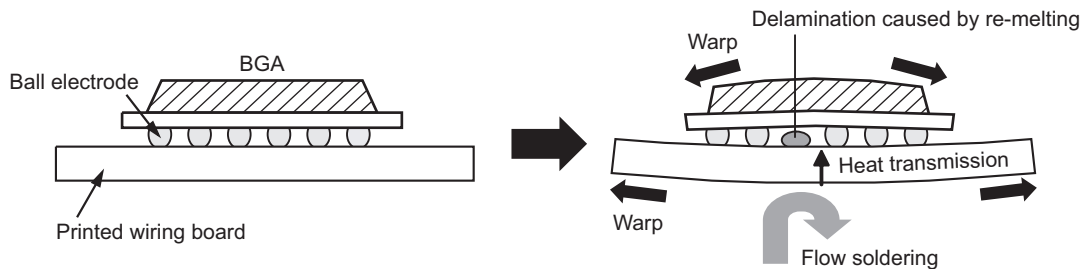
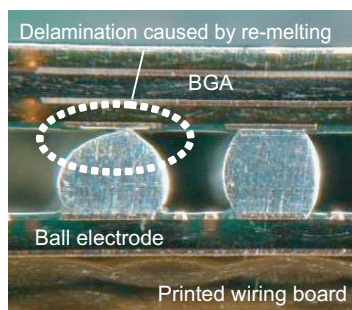

Figure 6.20 Mechanism of Delamination
Figure 6.21 Example of Delamination Caused By Re-melting (Cross Section Analysis Photo)
- After mounting BGA or CSP, if you carry out double-surface mounting using the flow soldering method, carefully check the temperature of the flow solder in the soldering bath. If the flow temperature is too high, the printed wiring board may warp due to the heat applied from one side of the board, and the ball electrodes of the mounted device may be delaminated from the warped board. In addition, if the balls are melted again by the heat, more ball electrodes may be delaminated from the board. Figure 6.20 shows the mechanism of delamination. Figure 6.21 shows an example (analysis photo of cross section) of delamination caused by re-melting.